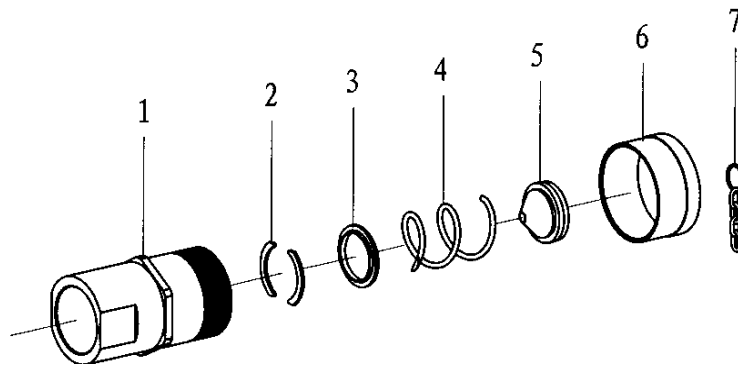

Fig 14
7.14 Quick exchange adaptor adaptor(2 1/8-12UN) (Fig 14, Table 14)